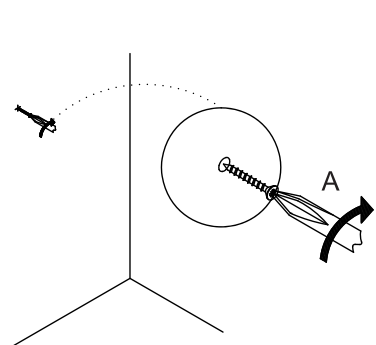

Figure 2
2: If using wall anchors: using a drill, create a hole in the wall for each wall anchor over the marked locations. Insert (x 2) wall anchors (B). Insert (x 1) 2" screw into each wall anchor. Figure 2. **If installing directly into wall studs:** using a drill, insert (x 1) 2" screw into each marked location. Figure 2.